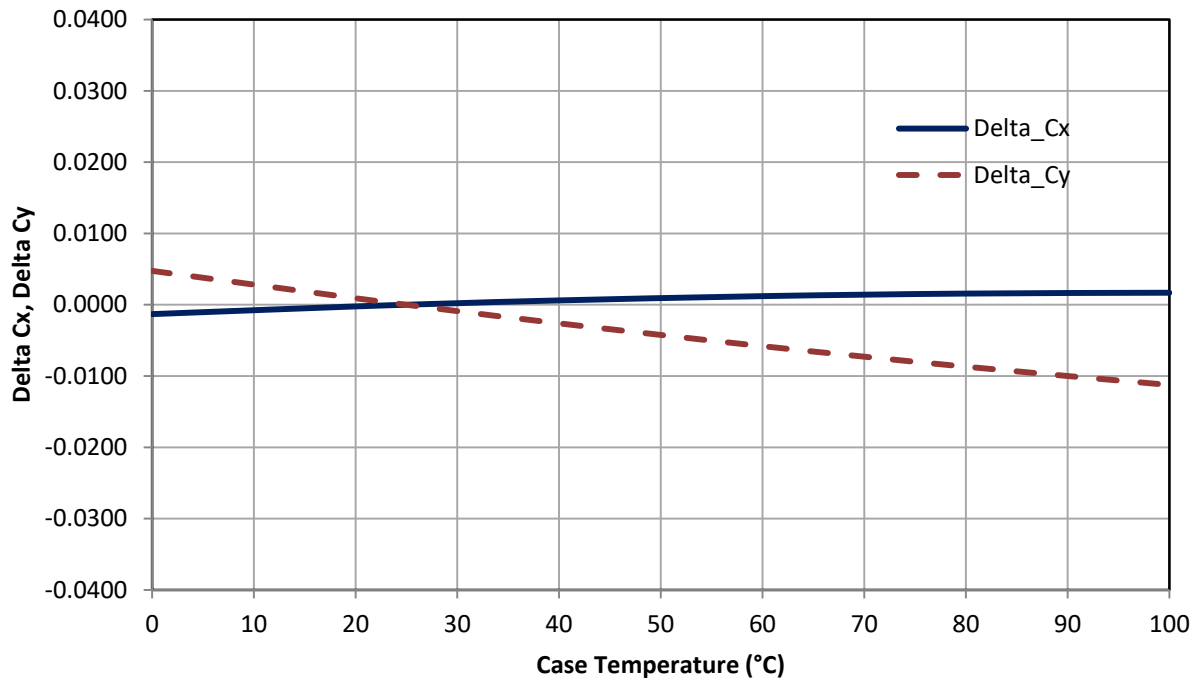

Figure 10: Typical chromaticity coordinate shift vs. Case temperature
- Maximum DC forward current (per die) is determined by the overall thermal resistance and ambient temperature. Follow the curves in Figure 10 for current de-rating.